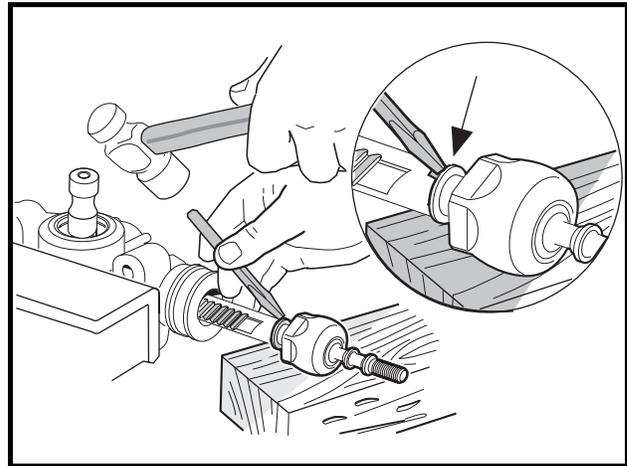

Figure 7-15 Remove Inner Ball Joints
13.2. Tap the flange out of the notch in the rack (Figure 7-15, Page 7-7).